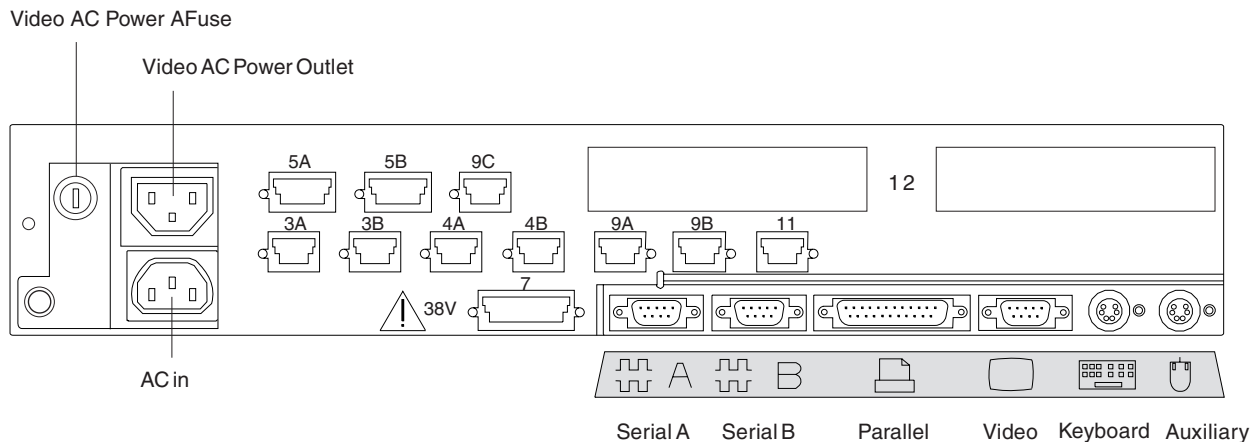

Figure 91. Rear of 4693-4x1 Point-of-Sale Terminal
7. Mark an X on Figure 91 on page 254 to indicate the sockets in which POS devices are connected: